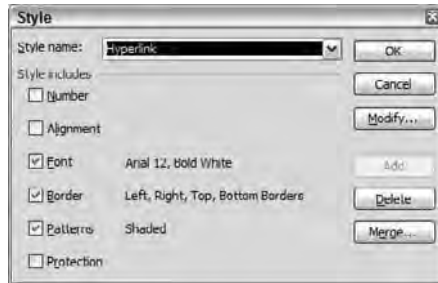

Figure 25.3: Use the Format Style dialog box to make hyperlinks and followed hyperlinks look like buttons.
1. Choose Format Style to display the Style box shown in Figure 25.3.